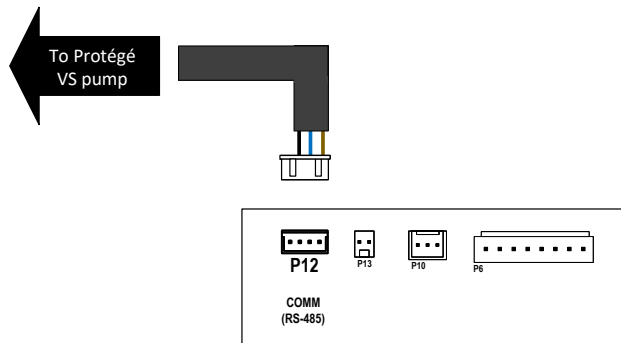

Figure 139. Wiring 24VAC Relays
3. Then connect the other end of the RS-485 Modbus harness to the terminal labeled as "COM" [P12] on the control board. See Figure 139.